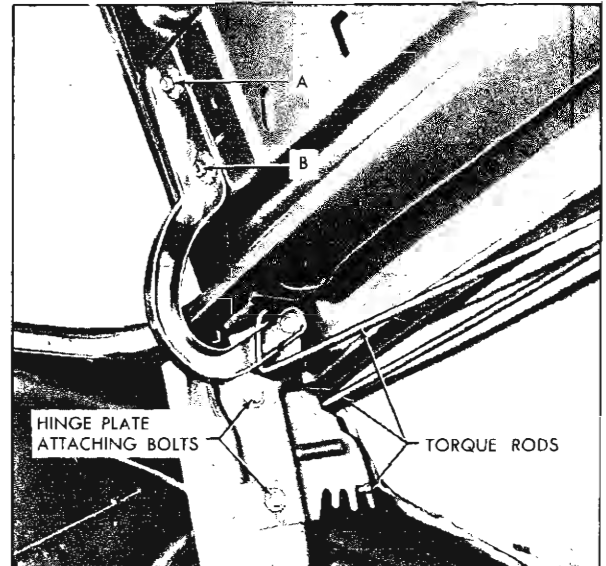
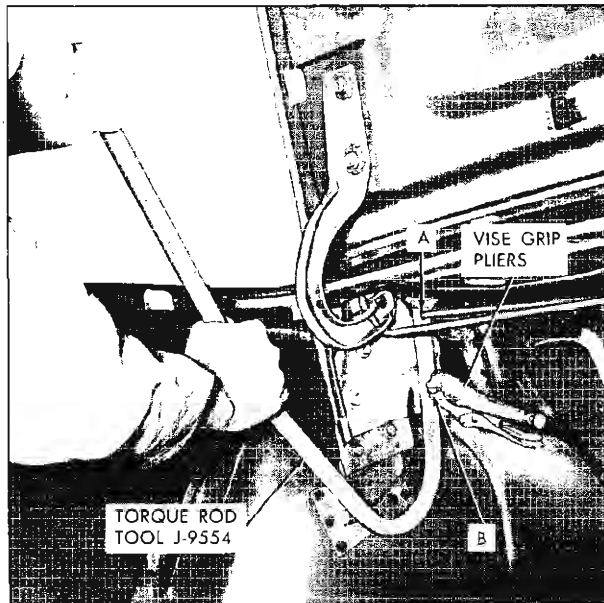

Fig. 14-5 Trunk Lid on 67 Style
Fig. 14-6 Trunk Torque Rod Adjustment
1. To adjust compartment lid forward or rearward, or from side to side in body opening, loosen hinge strap attaching bolts "A" and "B" (Fig. 14-5) on both sides of lid; adjust lid as desired, then tighten bolts.
2. To adjust front of compartment lid up or down loosen hinge plate attaching bolts (Fig. 14-5), adjust lid up or down as desired and tighten bolts.
The amount of effort required to open and close the rear compartment lid is determined by the position of the torque rods in the notches on the hinge mounting plate (Fig. 14-5). If the torque rod is located in the most forward notch, the effort required to open the lid is the greatest and the effort required to close the lid is the least. If the torque rod is located in the most rearward position, the effort required to open the lid is the least and the amount of effort required to close the lid is the greatest. Fig. 14-6 illustrates how to use tool J-9554 to perform these adjustments.
2. Firmly clamp vise grip pliers to end of torque rod to be adjusted ("A", Fig. 14-6). Engage hole in tool with "return crank end" of same torque rod ("B", Fig. 14-6).
4. Disengage torque rod from hinge plate by raising tool with one hand and holding it firmly against hinge plate with other hand (Fig. 14-6). Adjust torque rod to desired position, or remove rod completely.
2. Scribe location of hinge strap on lid inner panel and remove bolts "A" and "B" (Fig. 14-5) securing hinge strap to lid.
3. Disengage torque rods from hinge mounting plates using torque rod removing tool No. J-9554. Scribe location of hinge plate on hinge brace. Remove hinge plate attaching bolts (Fig. 14-5) and remove hinge from body.